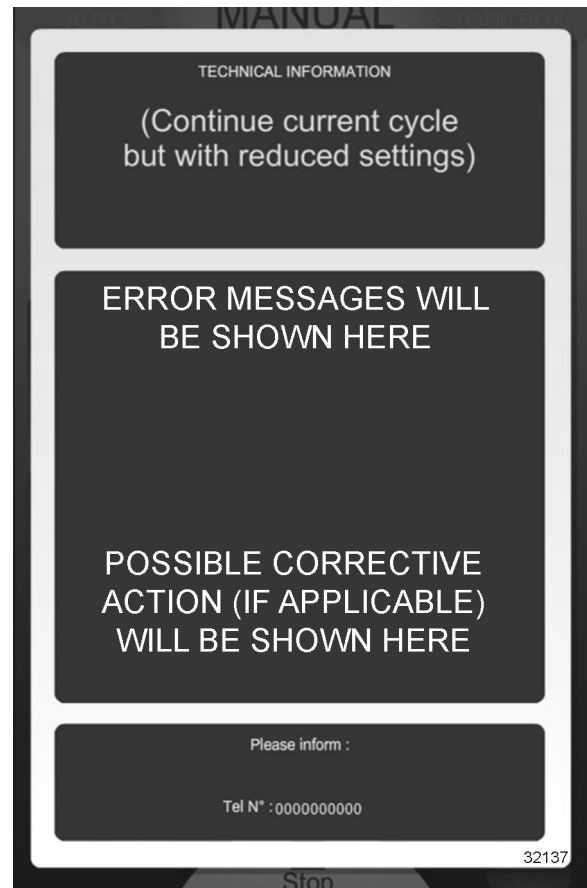

Fig. 104
- A **YELLOW** screen (Fig. 104) is displayed when errors occur that impact operation but do not shut down operation.